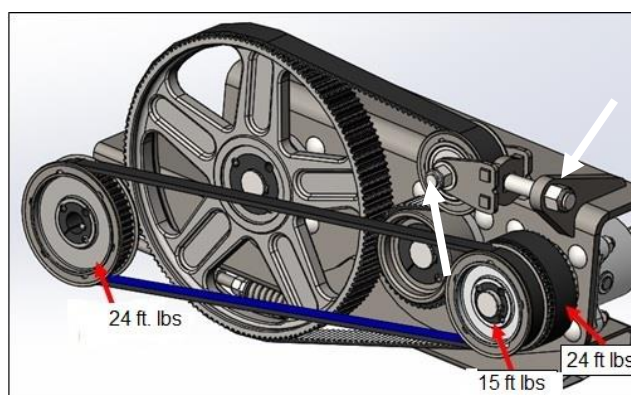

Figure 27
4. Torque the drive pulley hub set screws to the torque as described in Figure 27.